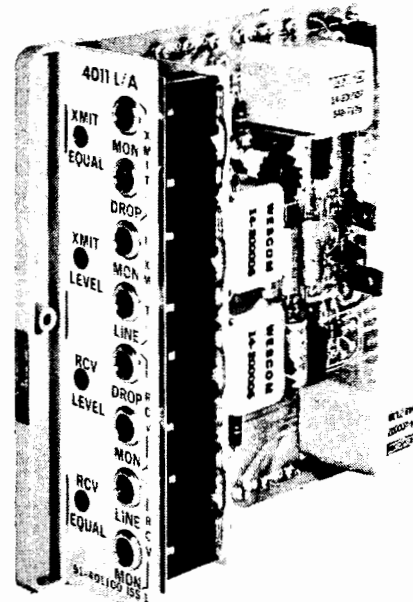

Figure 1. 4011 Line Amplifier, Front View
1.02 The 4011 Line Amplifier (Figure 1) is a compact, solid-state, printed-circuit module used to provide from 0 to 36-dB gain in each direction on a four-wire, voice-frequency transmission facility.